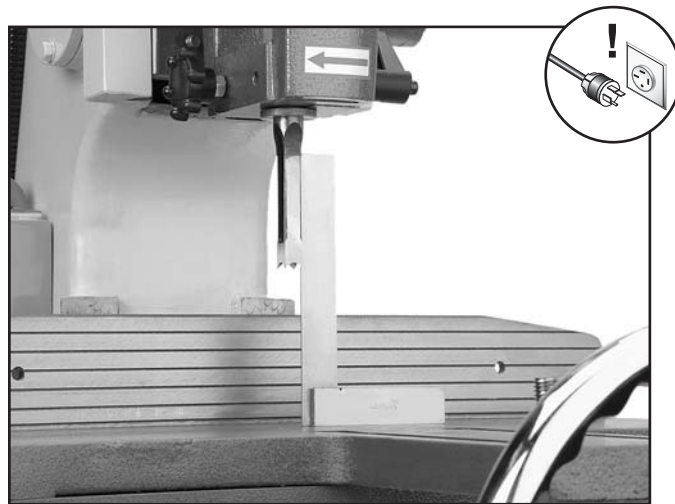

Figure 29. Adjusting the table tilt square with the chisel.
4. Raise the table so that you can position the machinist's square to the side and up against the flat part of the chisel and flat on the table, as shown in **Figure 29**.